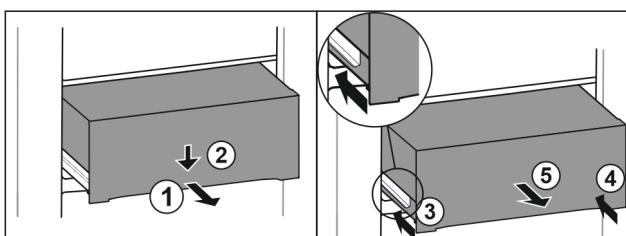

Fig. 93
- ▶ Pull out drawer half-way. Fig. 93 (1)
- ▶ Push the drawer down at the front. Fig. 93 (2)
- ▶ Push the left rail in by about 2 cm. Fig. 93 (3)
- ▶ Push the right rail in by about 2 cm. Fig. 93 (4)
- ▶ Remove drawer to the front. Fig. 93 (5)